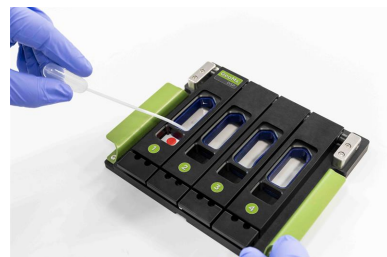

Figure 11: Adding buffer
5. Add **6 mL Buffer S** onto each slide (see Figure 11). Use Buffer S from the Slide Preparation Kit.